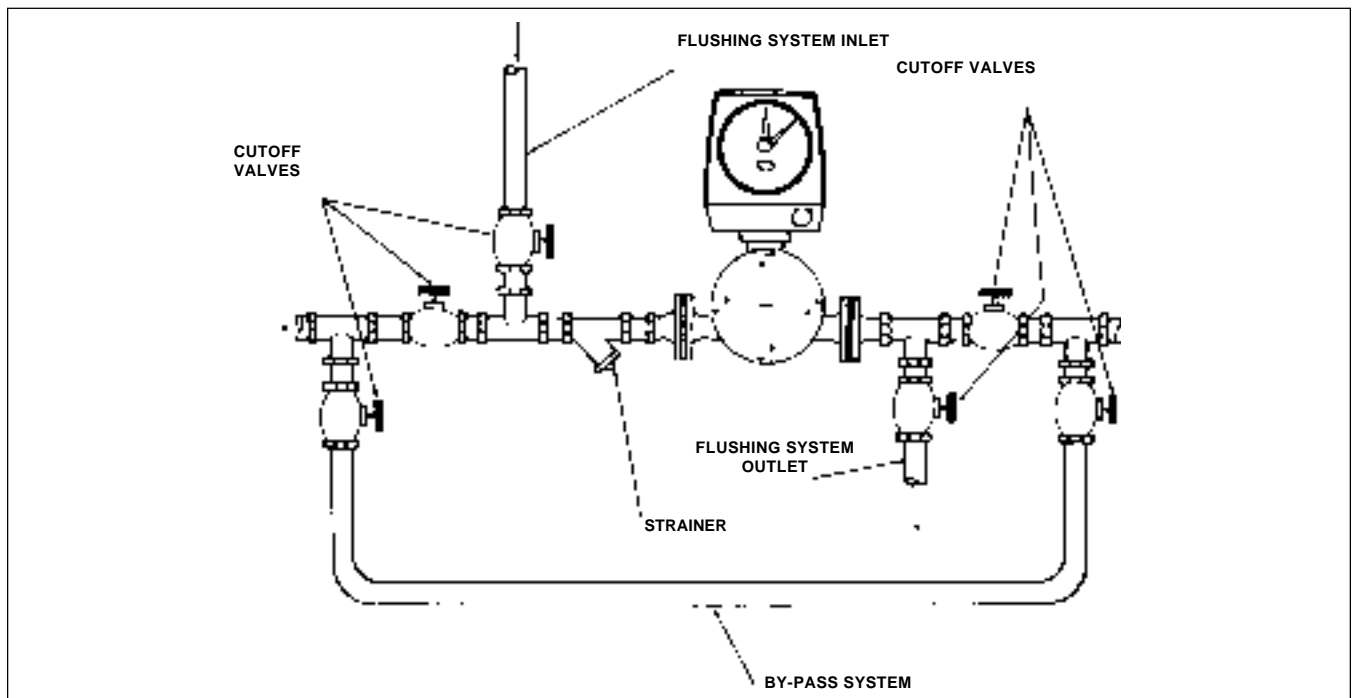

Figure 2-1.
5. In metering applications involving abrasive materials, slurries, or liquids that may leave a residue or buildup of deposits, a meter by-pass and flushing system should be incorporated into the facility piping installation to permit periodic clean-out of the meter. Figure 2-1 illustrates a typical meter installation incorporating a bypass and flushing system.
**NOTE:** Always install meter in such a way that round cover is on a vertical plane, as shown on Figure 2-1.
C. If the facility piping arrangement includes a meter bypass and flushing system (see Figure 2-1 in Section 2 of this manual), shut off fluid flow to the meter and flush interior of meter housing with clean water to remove any buildup of deposits or corrosion. If a bypass and flushing system is not included in the metering application, remove the meter housing cover and inspect the measuring chamber, piston and associated parts for any buildup of deposits or corrosion. Clean and flush parts with water or a suitable solvent that will not adversely affect the plastic components.